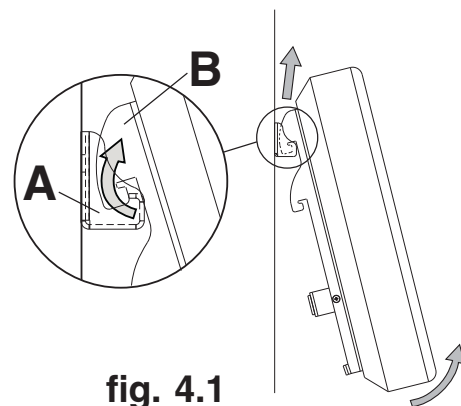

fig. 4.1
- 4 To remove screen from mount, slowly swing bottom of screen away from wall and slightly push top of screen toward wall to disengage hooks on vertical brackets (B) from wall plate (A). Lift screen off of wall plate as shown in figure 4.1.